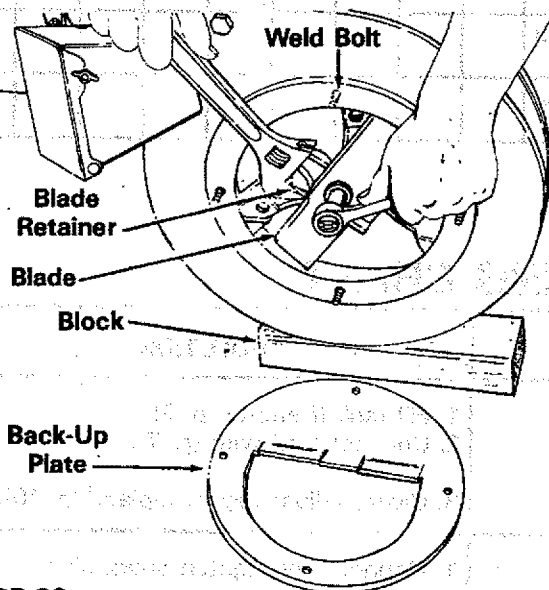

FIGURE 20.
2. Block up the housing. See figure 20.
4. Remove the back-up plate. See figure 20.
5. Hold the blade retainer on the impeller assembly with an adjustable wrench to keep the blade from turning as shown in figure 20.